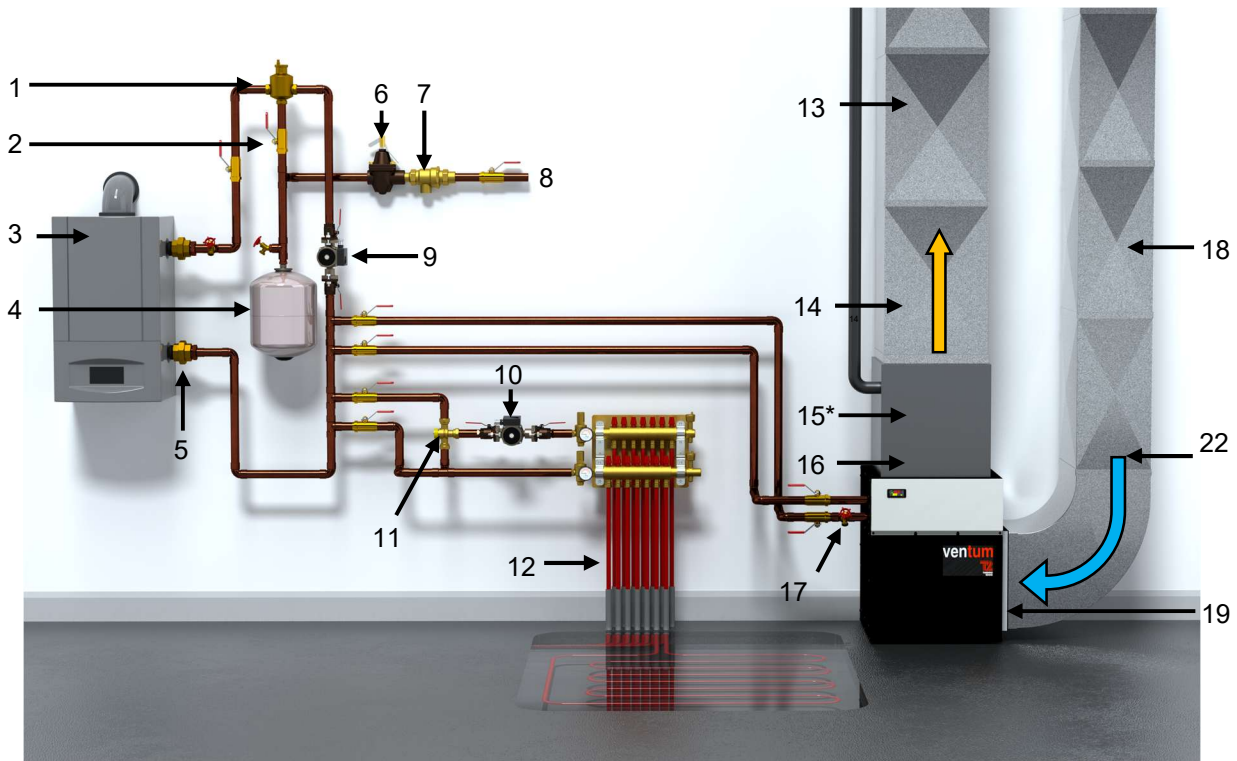

Figure 6: Typical installation of a hydronic air-handler unit with boiler and radiant heating
The VenTum hydronic air-handler has three (3) temperature sensors, two (2) of which must be positioned during installation. The sensor marked "Sortie Air / Air output" must be installed at least 30 cm (12 in) after the heating coil or, downstream of the air-conditioning coil (if such a coil is installed above the heating coil) (see position 14 on figure 6). If an air-conditioning coil is installed upstream of the heating coil, install the sensor as indicated after the heating coil. In the event where the cooling coil is located in the return air duct, the sensor marked "Entrée Air / Air Input" must be relocated before the cooling coil (see position 22 on figure 6).